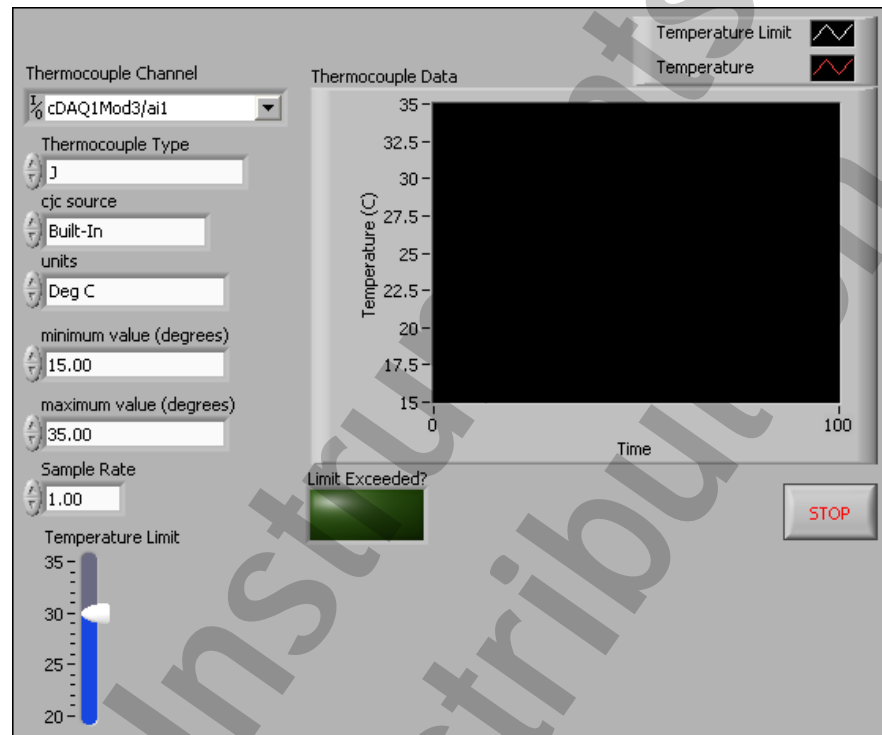

Figure 7-2. Thermocouple VI Front Panel
3. Arrange the front panel controls as shown and replace controls and indicators as needed. The completed front panel should resemble Figure 7-2.